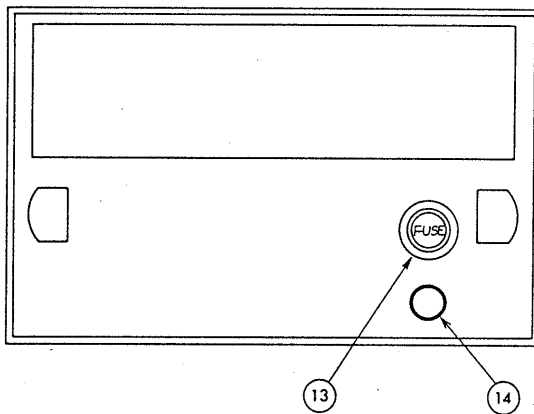

Figure 3-2
- ④ FREQUENCY VARIABLE: For fine adjustment of frequency. When set in the CAL'D position, the oscillating frequency is the dial value multiplied by the range value.
- ⑤ VCG: Selects between VCG mode and DIAL mode. The depressed and locked state is for VCG.
- ⑥ START: Start/stop control of frequency oscillation. When depressed and locked, the oscillation starts and continues.
- ⑦ DC OFFSET: For superposing a DC component on the oscillated AC component. The DC component is provided when this switch is pulled out and it is continuously variable adjustable up to the maximum peak value of the output voltage. If the sum of DC component and AC component exceeds ± 10 V, the signal is saturated. Operate within ± 10 V.
- ⑧ FUNCTION: Selects the output signal waveform for sine () , triangular () , or square () .
- ⑨ ATTEN: Attenuator for stepwise attenuation (0, -20, -40, -50, -60 dB) of output voltage. The inner knob is for continuously variable adjustment between ranges.
- ⑩ OUTPUT TERMINAL: Provides the output signal of 0 - 20 Vp-p, with output resistance 50Ω. BNC terminal with the ground line isolated from the casing.
- ⑪ TTL OUTPUT: Provides TTL level output signal synchronized with the oscillating frequency. The output resistance is 50 ohms.
- ⑫ VCG INPUT TERMINAL: Input terminal for VCG mode, to control the oscillating frequency with an input voltage of 10 mV - 10 V.
3.2 Explanation of Rear Panel (See Figure 3-2.)
- ⑬ FUSE: Fuse in the AC power line. 0.5 A (Slow Blow type)
- ⑭ POWER CORD: To be connected to an AC power line outlet of 100 V, 50/60 Hz.